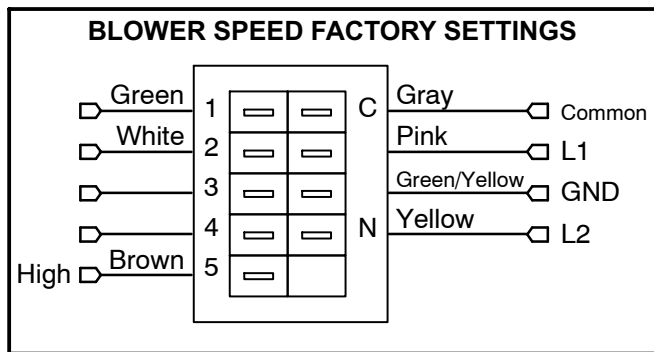

FIGURE 19
- 3- Use figure 19 to determine the factory-set blower speed.
- 4- Use direct drive blower tables, the measured static pressure and the factory-set blower speed to determine CFM. If CFM is lower or higher than the design specified CFM, move the leads as shown in figure 19. See table 2 for single phase units.